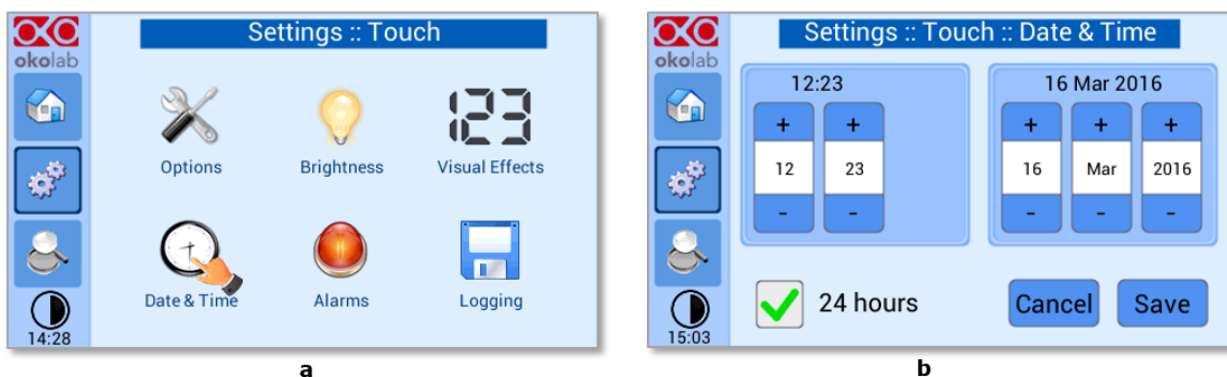

Figure 51. Touch screen settings. Date and Time (a – b)
1. Press the *Date & Time* icon , see Figure 51 a
2. Set the values, as shown in Figure 51 b